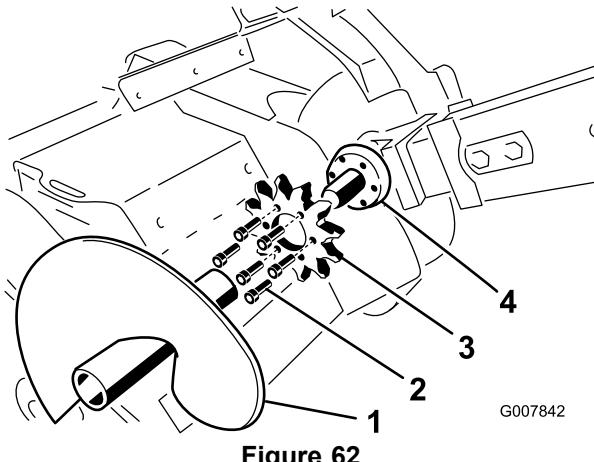

Figure 62
3. Remove the spoils auger (Figure 62).
- 8. Remove the six bolts securing the drive sprocket (Figure 62).
- 9. Remove and discard the drive sprocket (Figure 62).
- 10. Clean the sprocket mounting surface on the trencher (Figure 62).
- 11. Slide the new sprocket onto the shaft (Figure 62).
- 12. Thread the six bolts into the sprocket finger tight (Figure 62).